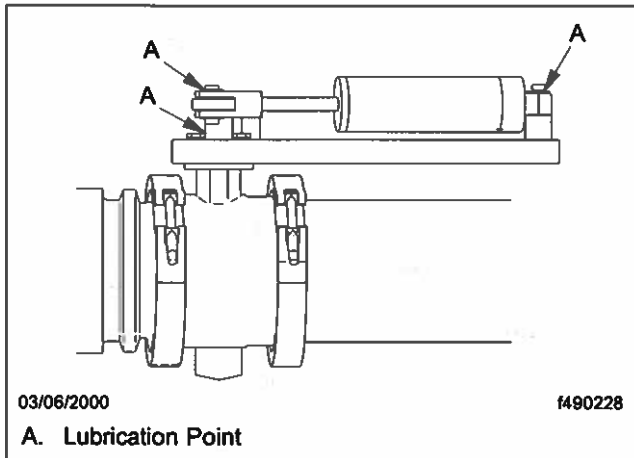

Fig. 7.6, Pacbrake Exhaust Brake and Air Cylinder
1. With the engine shut down, use any oil-free or nonpetroleum based high-heat lubricant and spray or coat a sufficient amount on the restrictor valve shaft and the attaching locations at each end of the actuation cylinder. See Fig. 7.6.